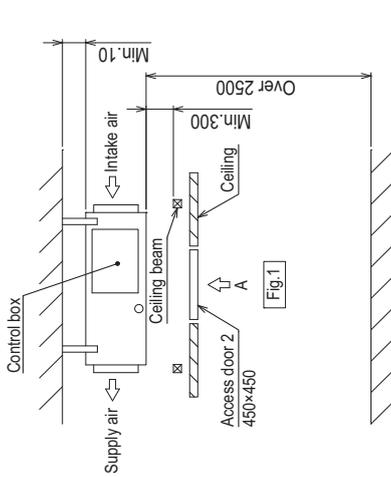

Fig.1
- When a space of 300mm or more is available below the unit between the unit and the ceiling. (Fig.1)